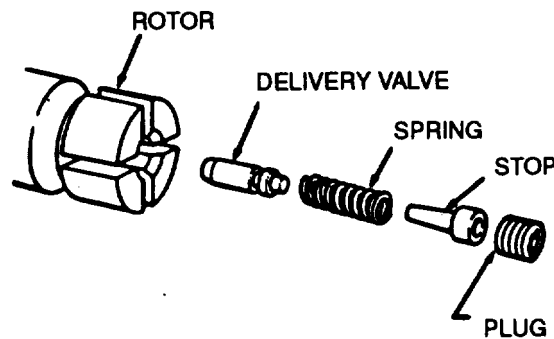

FIGURE 3-72. Delivery Valve Replacement
- c. Using extractor (13383), install delivery valve (35) into bore of rotor. Ensure it slides freely in its bore, refer to FIGURE 3-72.